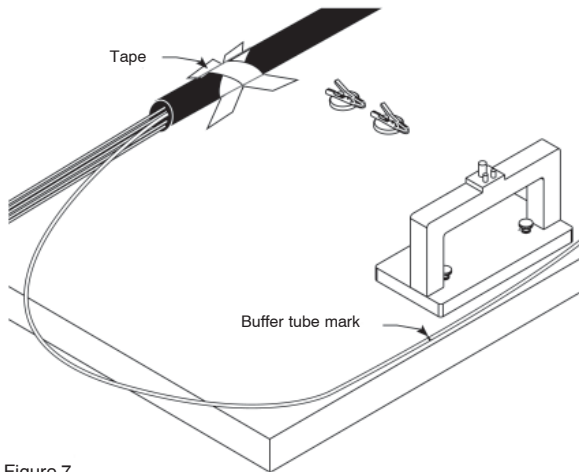
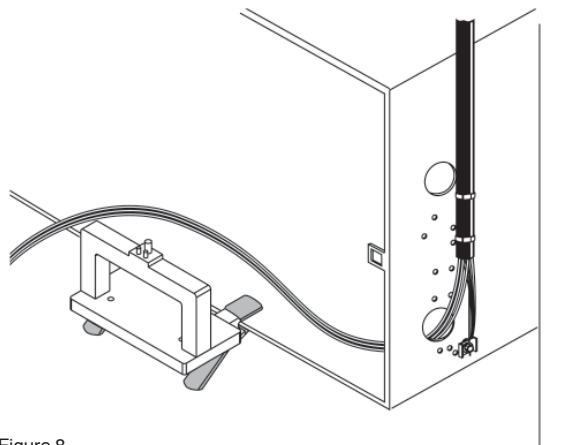

Figure 7
Figure 8
6.1 Secure the cable end to the work surface with tape (Figure 7) or secure it in the terminating hardware as shown in Figure 8.